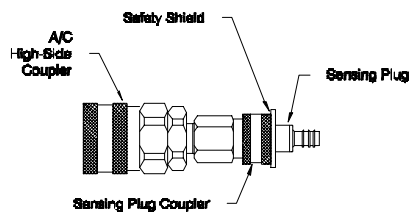

Figure 1: R134a Test Rig
**R134a Test Rig:** Figure 1. Provides connection of sensing plug to the high side or liquid service port of R1324a based A/C systems.